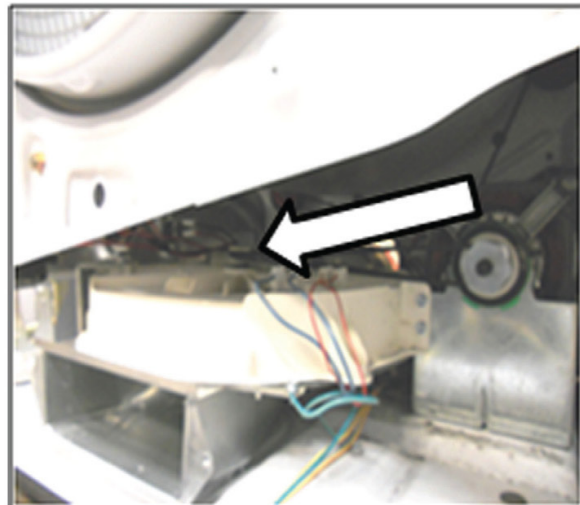

Figure 2
- b.) Remove the blower pulley (Figure 2), completely from the bearing shaft (if not already disengaged).